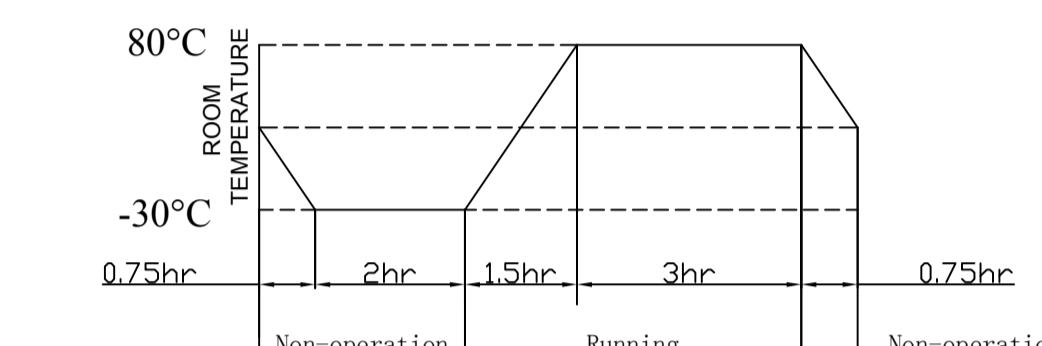

FIGURE 4
- Composite temperature cycle: 12 cycles according to the vehicle installation state and the cycle of Figure 4, but in the last cycle The following vibrations are applied within the range where the upper and lower limits are stable: 68.6m/s², 33Hz (7.0G, 2000 cpm) the axial direction is 0.5 hr;